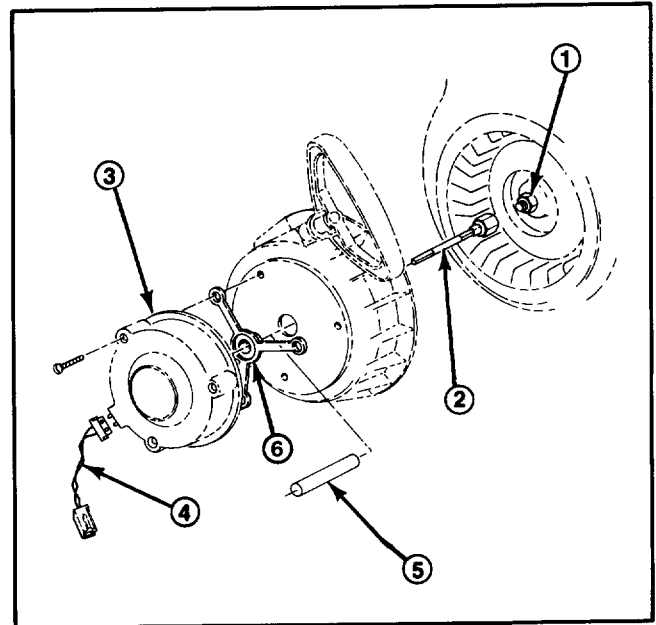

Figure 4
4. Locate (3) depressed drill starts in front side of housing (Fig. 4).
10. On snowthrower models 38035, 38052, 38052C and 38056 with serial numbers 9000001 & up, install spacer between recoil assembly and alternator as shown in figure 4.
12. Slide alternator onto alternator shaft aligning mounting holes, and positioning receptacle downward and away from control lever and linkage. Secure alternator to recoil assembly with (4) self tapping screws. Use longer screws on models spacer.